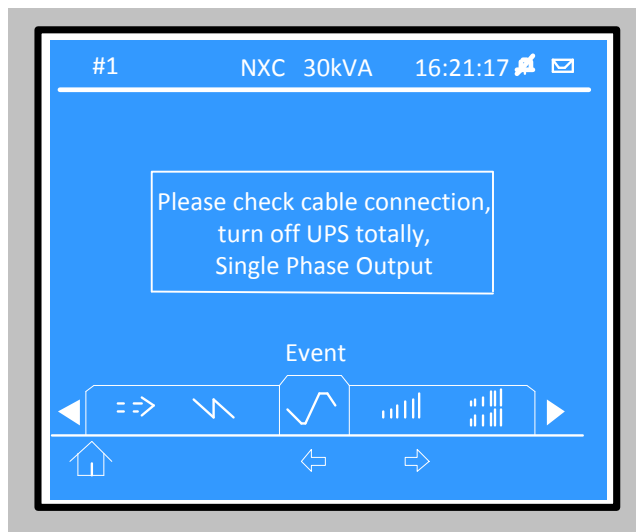

Figure 8-38 Prompt window
4. Only authorized personnel shall change the 3-in 3-out mode into 3-in 1-out mode through Vertiv setting software. After setting, the LCD will display the screen shown in Figure 8-38.